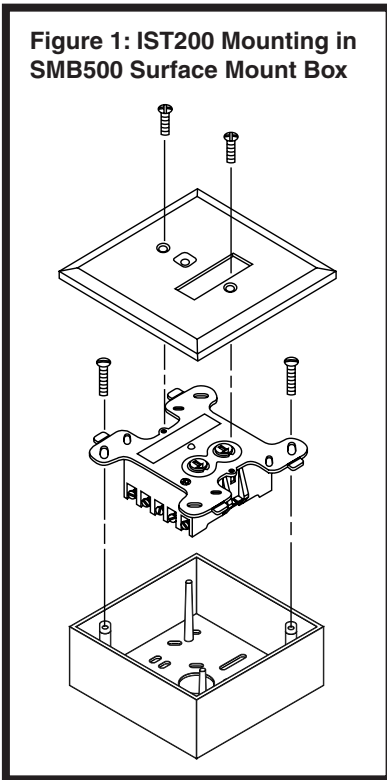

Figure 1: IST200 Mounting in SMB500 Surface Mount Box
The IST200 mounts directly to a 100mm square electrical box with a minimum depth of 54mm, such as the SMB500 as shown in Figure 1.
3. Secure translator to SMB500 mounting box as shown in Figure 1.
El IST200 se monta directamente en una caja de conexiones cuadrada de 100mm de ancho x 54mm de fondo, como la SMB500 ilustrada en la fig. 1.